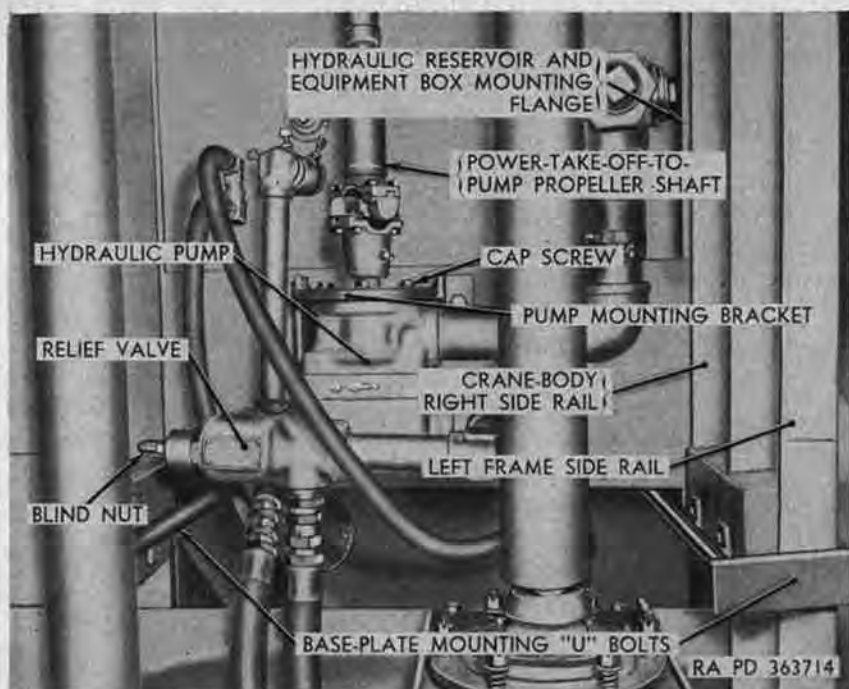
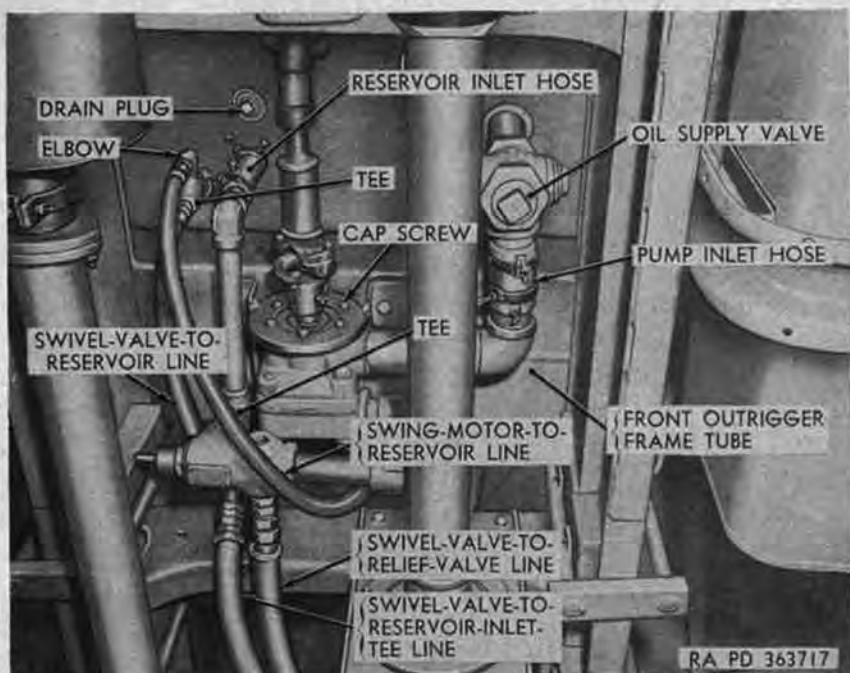

Figure 313. Bottom view of hydraulic pump and relief valve assembly installed M246.
Figure 316. Front bottom view of hydraulic pump and relief valve assembly installed M246.
- (2) *Hydraulic pump and relief valve assembly.* The flange-mounted vane-type hydraulic pump (fig. 313) is bolted to a bracket attached to the underside of the rear outrigger frame tube. The pump is driven by a propeller shaft (fig. 313) extending from the power-take-off (fig. 209) on the rear of the transfer to the pump input shaft. The adjustable relief valve (fig. 313) is connected to the hydraulic pump outlet port. The purpose of this valve is to protect the crane hydraulic system from excessive (above 1,200 psi) pump pressures.
- (7) *Boom lift cylinder.* Refer to paragraph 268a(11).
- (8) *Boom crowd cylinder.* Refer to paragraph 268a(12).
- (9) *Boom hoist hydraulic oil motor and cable drum assembly.* Refer to paragraph 268a(13).
- (10) *Control valve bank.* Refer to paragraph 268a(14).
- (11) *Hydraulic lines and fittings.* Refer to paragraph 268a(15).
- (12) *Hydraulic reservoir and equipment box.* The hydraulic reservoir and equipment box (fig. 85) is secured to the crane body by four cap screws installed through holes in the top flange of the crane-body side rails (fig. 313) into tapped blocks welded to the top side of the hydraulic-reservoir-and-equipment-box mounting flanges. Weight of the reservoir and equipment box is 185 pounds.
(1) Disconnect swivel-valve-to-relief-valve line (fig. 316) from relief valve outlet port.
(2) Disconnect swivel-valve-to-reservoir-inlet-tee line (fig. 316) from tee at relief valve.
(3) Loosen two hose clamps securing reservoir inlet hose (fig. 316) to sleeve on bottom of reservoir, and remove hose from sleeve.
(4) Loosen two hose clamps securing pump inlet hose (fig. 316) to oil supply valve outlet port.
(5) Remove power-take-off-to-pump propeller shaft (fig. 313) from pump propeller shaft (par. 211).
(6) Remove six cap screws (fig. 313) and lockwashers securing pump to pump mounting bracket, pull pump from bracket, sliding pump inlet hose (fig. 316) from oil supply valve outlet port, and remove hydraulic pump and relief valve assembly from vehicle.
(7) Remove reservoir-to-pump piping from pump inlet port.
(8) Remove pump-to-relief-valve piping from pump outlet port.
- (1) Install relief-valve-to-reservoir piping in relief valve outlet port.
- (2) Install pump-to-relief-valve piping in relief valve inlet port.
- (3) Install pump-to-relief-valve piping in pump outlet port.
- (4) Install reservoir-to-pump piping in pump inlet port.
- (5) Position pump and relief valve assembly under front outrigger frame tube, and secure pump (fig. 316) to pump mounting brack with six cap screws and lockwashers. Tighten cap screws.
- (6) Install power-take-off-to-pump propeller shaft (fig. 313) on pump drive shaft (par. 211).
- (7) Connect swivel-valve-to-reservoir-inlet-tee line (fig. 316) to tee at relief valve.
- (8) Connect swivel-valve-to-relief-valve line (fig. 316) to relief valve outlet port.
- (9) Install reservoir inlet hose (fig. 316) on sleeve at bottom of reservoir, and tighten the two hose clamps.
- (10) Install pump inlet hose (fig. 316) on oil supply valve outlet port, and tighten the two hose clamps. Open oil supply valve.
- (6) Disconnect floodlight cable at bayonet-type connector clipped to top of frame cross member under crane base plate.
- (7) Disconnect swivel-valve-to-relief-valve line (fig. 316) from relief valve outlet port.
- (8) Disconnect swivel-valve-to-reservoir-inlet-tee line (fig. 316) from tee at relief valve.
- (9) Disconnect swivel-valve-to-reservoir line (fig. 316) from tee on bottom of reservoir.
- (1) Using overhead hoisting equipment, lift base plate and pivot post assembly into position on crane body, guiding base plate mounting U-bolts (fig. 313) through holes in base plate. Remove hoisting equipment.